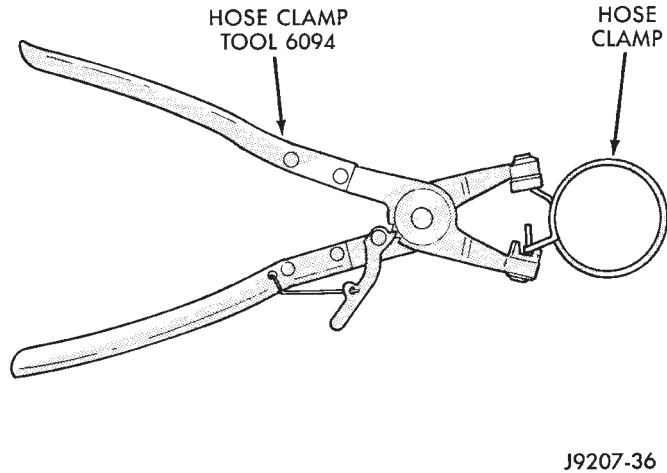

Fig. 27 Hose Clamp Tool—Typical
WARNING: CONSTANT TENSION HOSE CLAMPS ARE USED ON MOST COOLING SYSTEM HOSES. WHEN REMOVING OR INSTALLING, USE ONLY TOOLS DESIGNED FOR SERVICING THIS TYPE OF CLAMP, SUCH AS SPECIAL CLAMP TOOL (NUMBER 6094) (Fig. 27). SNAP-ON CLAMP TOOL (NUMBER HPC-20) MAY BE USED FOR LARGER CLAMPS. ALWAYS WEAR SAFETY GLASSES WHEN SERVICING CONSTANT TENSION CLAMPS.
(2) Loosen both bypass hose clamps (Fig. 27) and position to center of hose. Remove hose from vehicle.
- (1) Position bypass hose clamps (Fig. 27) to center of hose.
- (2) Install bypass hose to engine.
- (3) Secure both hose clamps (Fig. 27).
- (4) Fill cooling system. Refer to Refilling the Cooling System in this group.
- (5) Start and warm the engine. Check for leaks.
- (3) Remove upper radiator hose clamp (Fig. 27) and hose at radiator.
- (4) Unplug wiring harness from A/C compressor.
- (5) Remove air cleaner assembly.
- (1) Position bypass hose clamps to center of hose.